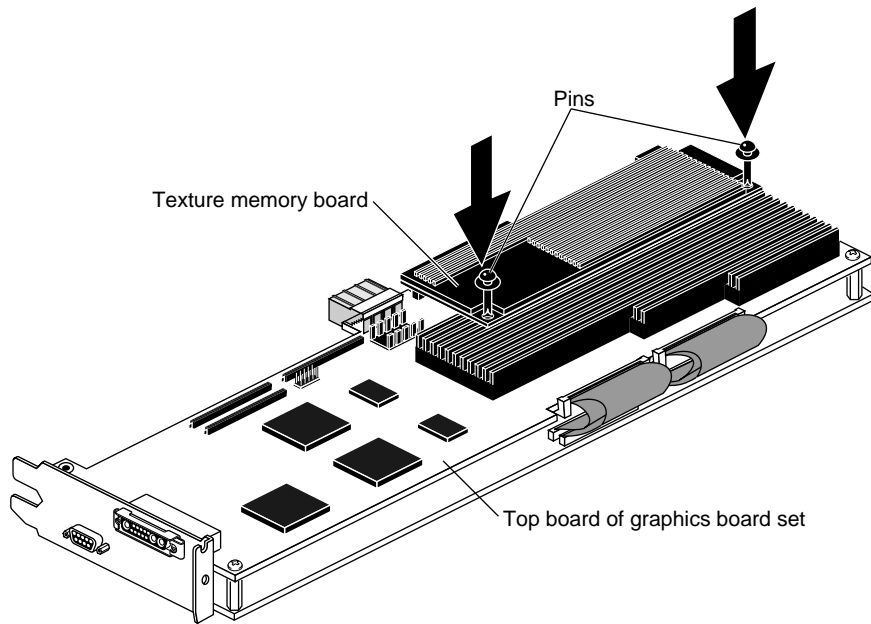

Figure 5-30 Seating the Push Pins
- Place each pin in a hole at the edge of the board. See Figure 5-30.